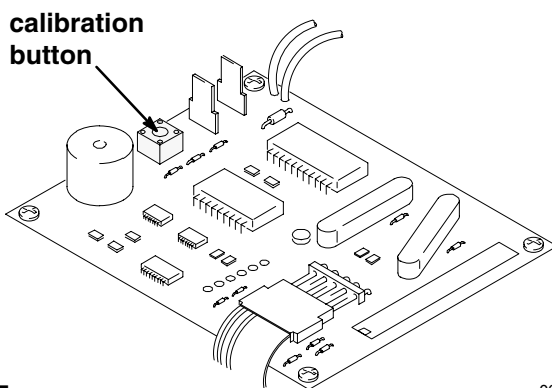

Fig. 5
1. Remove the six screws (21) (see the **Parts Drawing** on page 21) that hold the two halves of the cover together, and open the unit to gain access to the Calibration button.
2. Locate the calibration button inside the unit, as shown in Fig. 5.